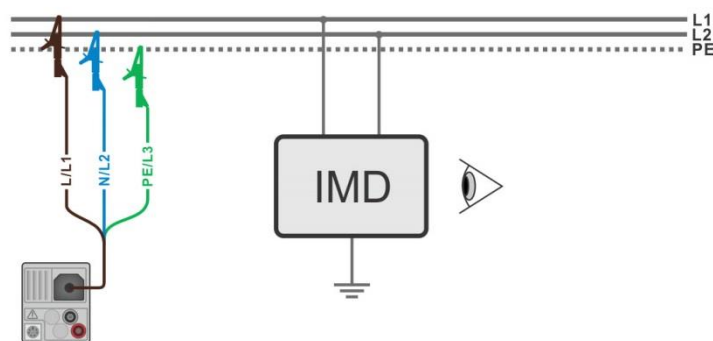

Figure 7.80: Connection with 3-wire test lead
- › Connect test leads to the object under test, see **Figure 7.80**.